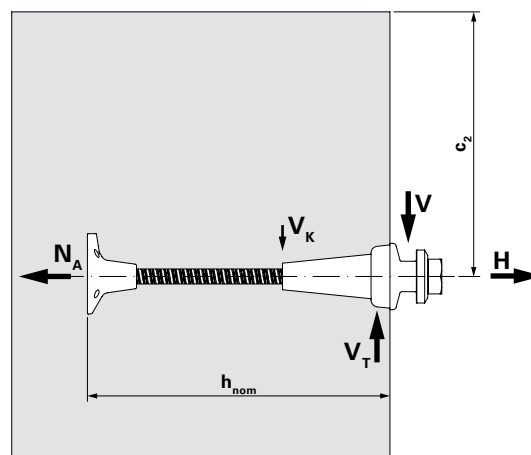

Fig. A2.02
- The permissible tensile and shear forces are limited through the load-bearing capacity of the tie rod, the concrete strength when the load is imposed, edge distances c_2 of the anchoring as well as the anchoring depth h_{nom} . (Fig. A2.02)